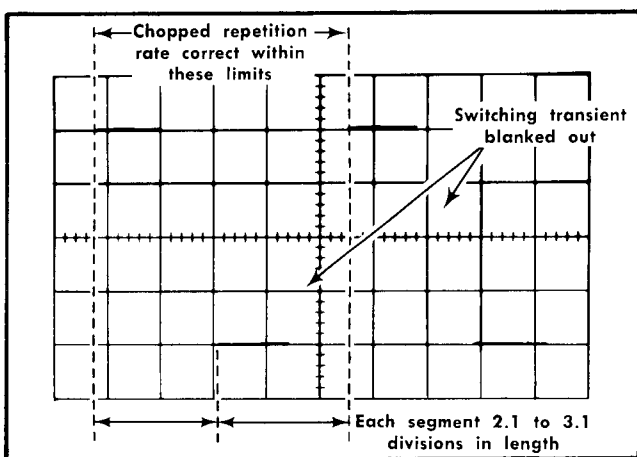

Fig. 5-29. Typical CRT display when checking chopped repetition rate and blanking.
- CHECK—Each cycle for duration of 4.2 to 6.25 divisions (one megahertz, $\pm 20\%$; see Fig. 5-29).
- CHECK—Length of each segment between 2.1 and 3.1 divisions (416 to 625 nanoseconds; see Fig. 5-29).
- CHECK—CRT display for complete blanking of switching transients between chopped segments (see Fig. 5-29).